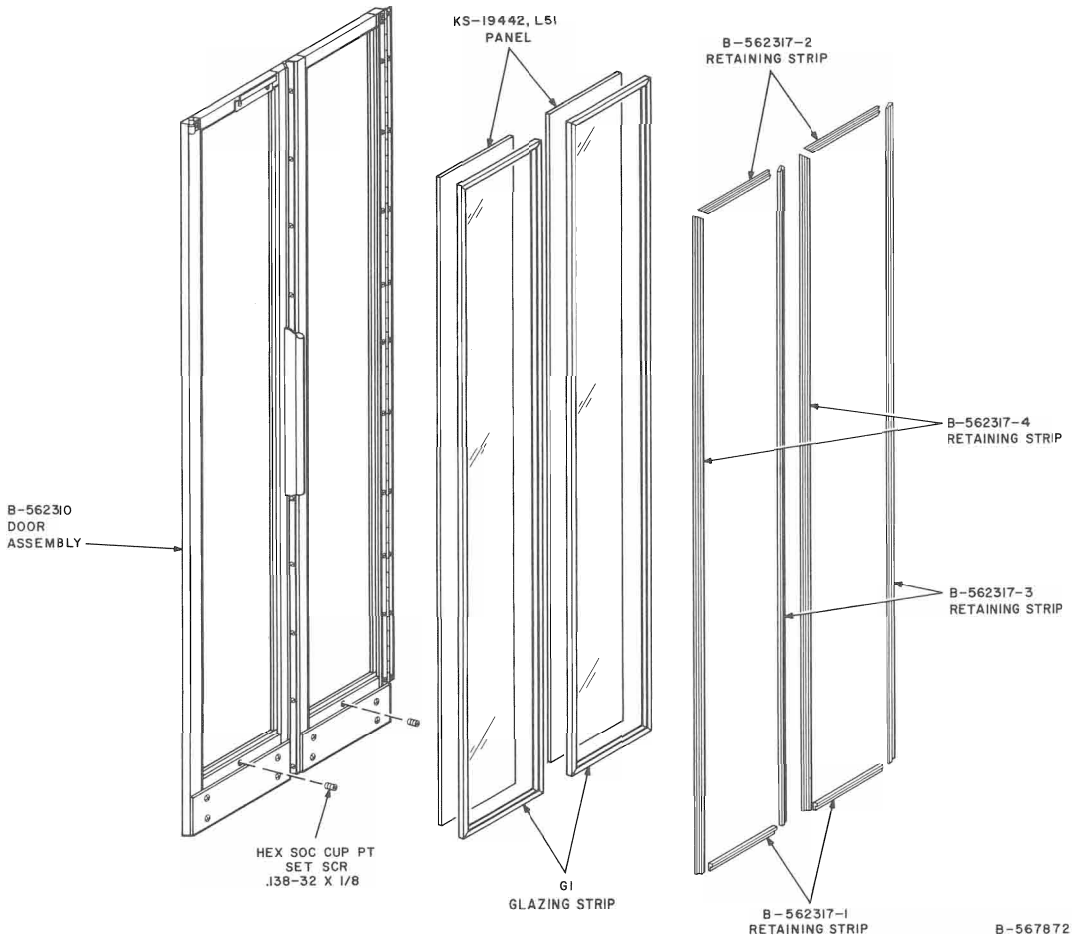

Fig. 24—Installation of Glass Panels in Door
- (a) Refer to Fig. 24 for installing door panels. Side and rear panels are similarly installed.